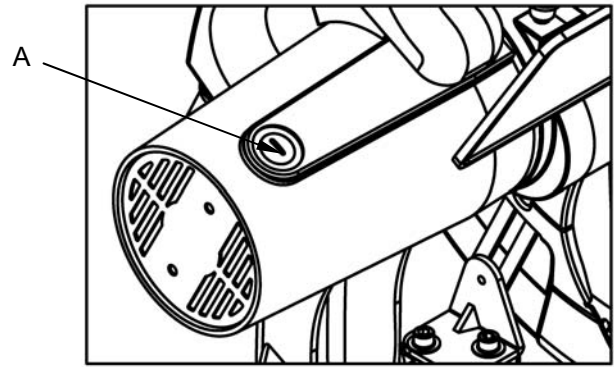
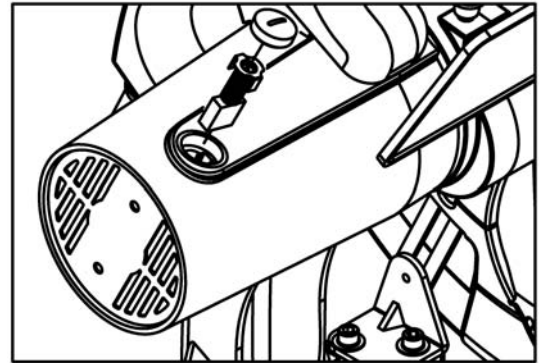

Fig.21
Fig.22
The brush holder cap (A) as shown Fig.21 is located on the motor housing opposite each other. Illustrates one of the brushes removed for inspection. When the carbon on either brush is worn to 6.35mm length of it either spring or shunt wire is burned or damaged in any way, replace both brushes. If the brushes are found serviceable after removing, reinstall them in the same position as removed as shown Fig.22.